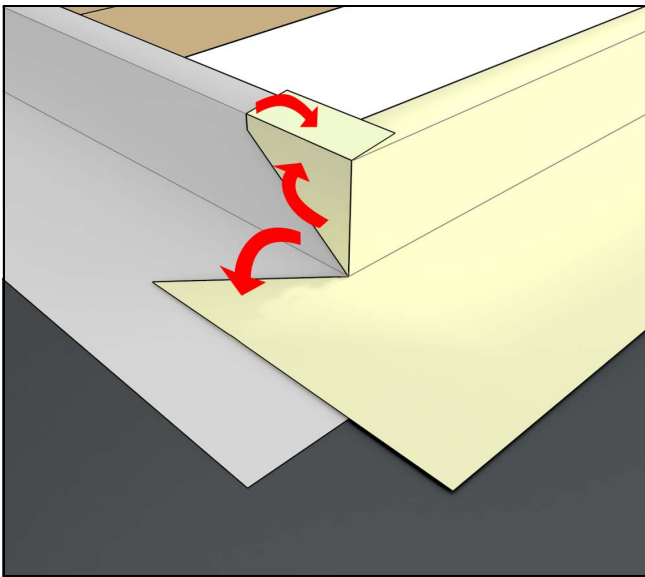

Figure 33
5. Wrap the top and the corners of the curb with adhesive skylight underlayment and create proper water-shedding lap. See Figure 33